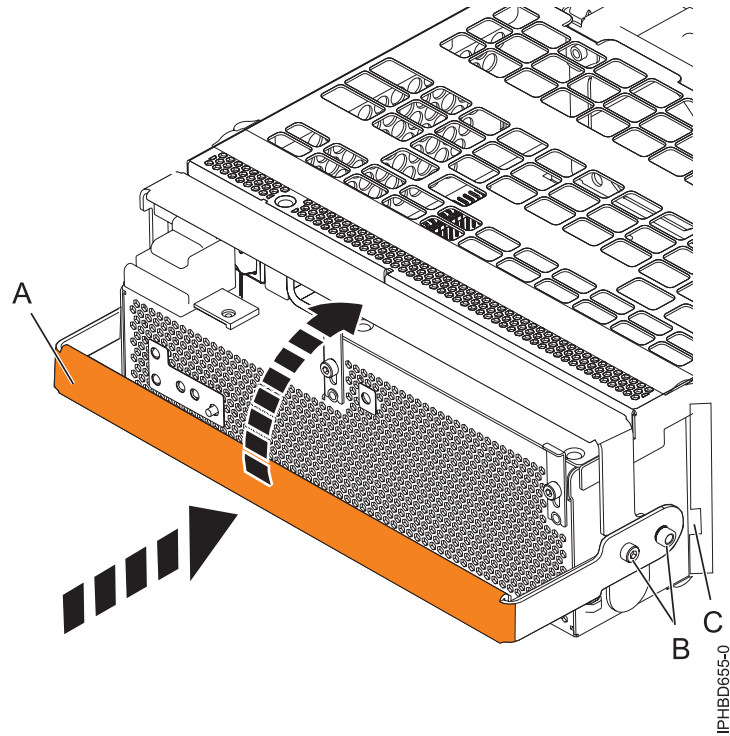

Figure 72. Replacing a power supply
10. To replace the power supply, with the locking handle **(A)** in the open position, push the power supply into the expansion unit as shown in Figure 72 on page 79.